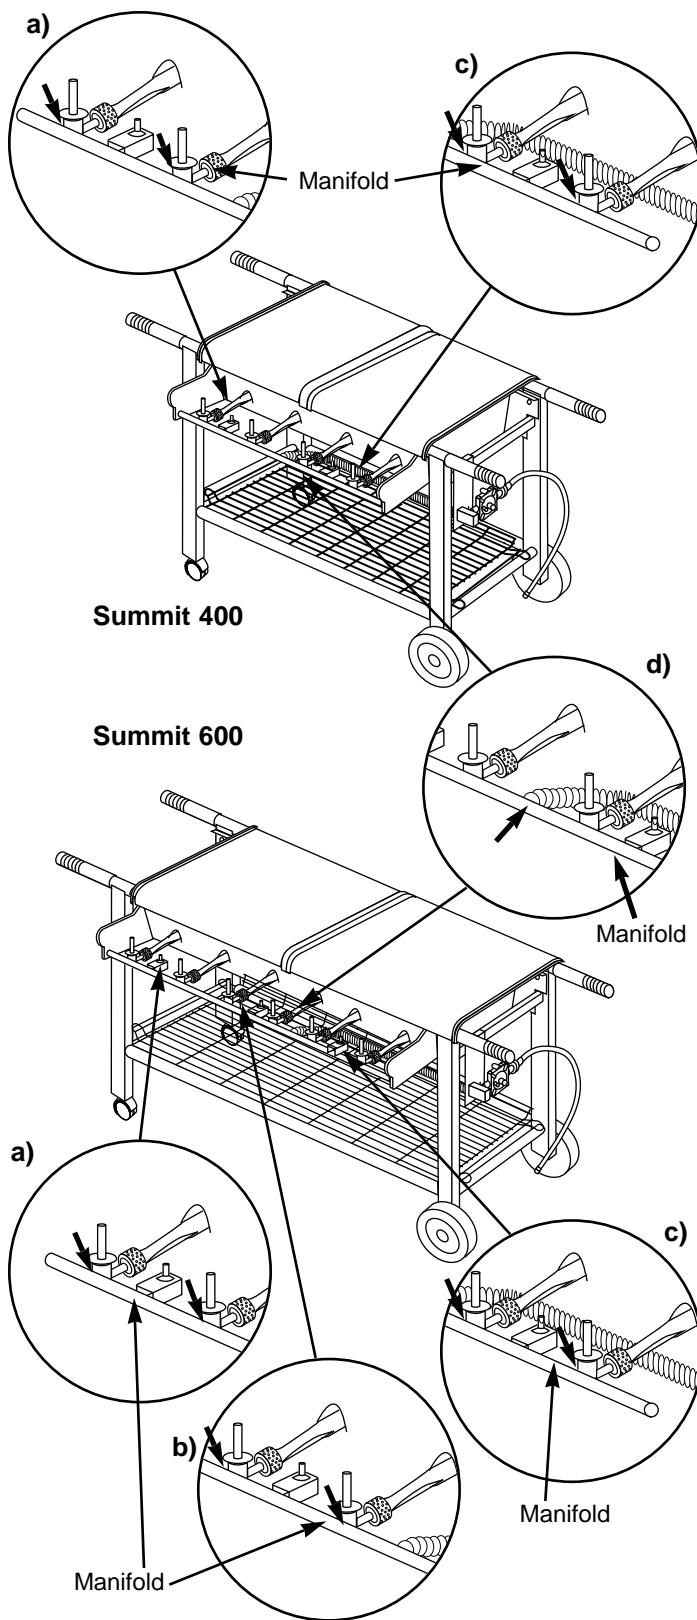

Figure 20
- a) Left valves to manifold connection. Figure 20 (a).
- b) Center valves to manifold connection. Figure 20 (b).
- c) Right valves to manifold connection. Figure 20 (c).
- d) Hose to manifold connection. Figure 20 (d)